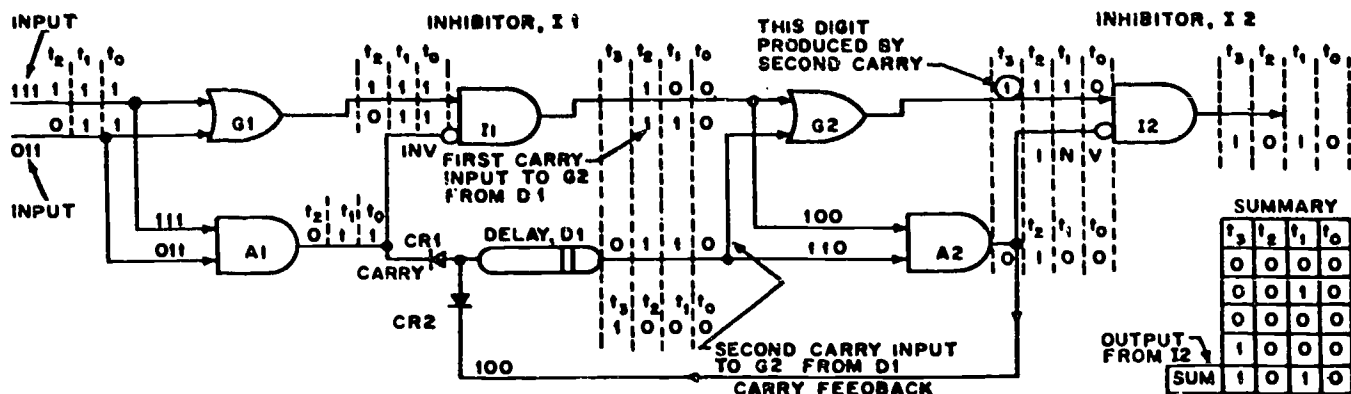

Figure 1-19. Serial-adder for accumulating multiple-carry digits.
Serial-adder. The full-adder circuit shown in figure 1-19 is designed to advance a carry (in serial-addition)
6. The following questions are based on the operation of the full-adder shown in figure 1-19. Assume that the inputs to the adder are: